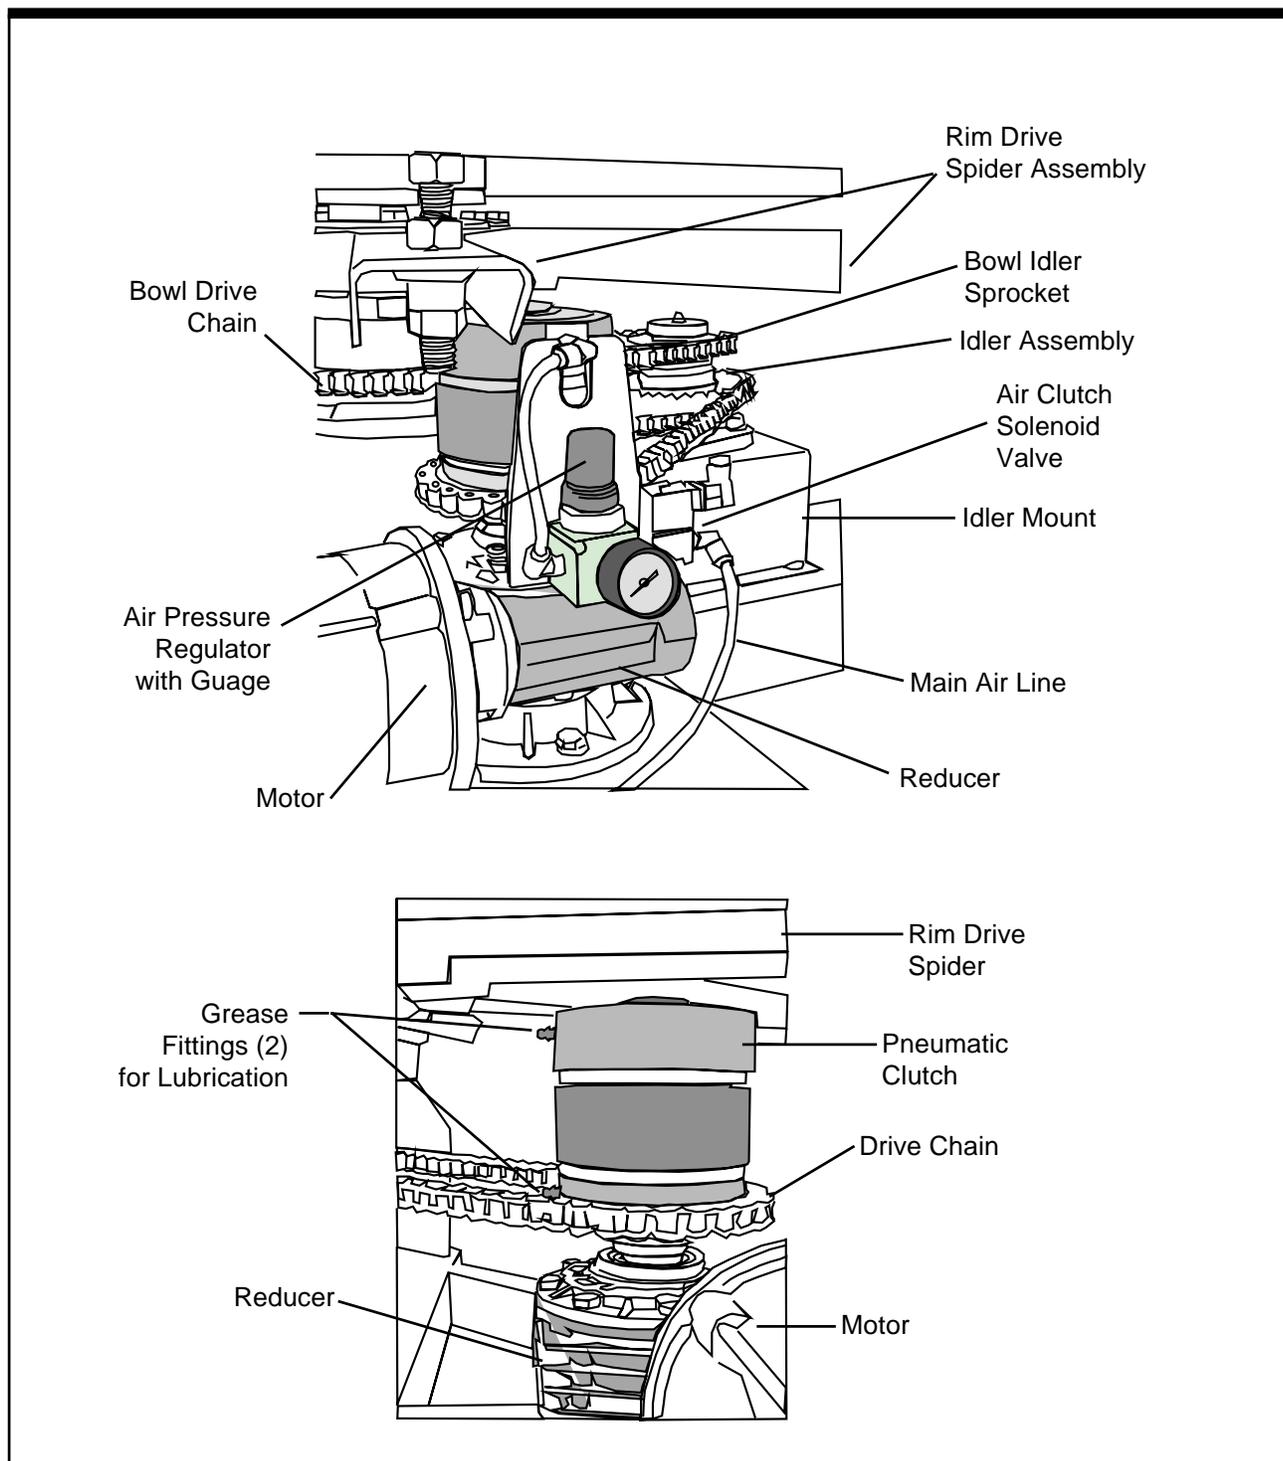

Figure 4-2. FS-30-RD Drive Train
Lubrication will be required after every four (4) weeks of operation. Use a lubricant such as Andersol 786 or equivalent. Two grease fittings are provided for this purpose (see Figure 4-2). After long periods of operation, it may be necessary to disassemble the clutch for cleaning and inspection.